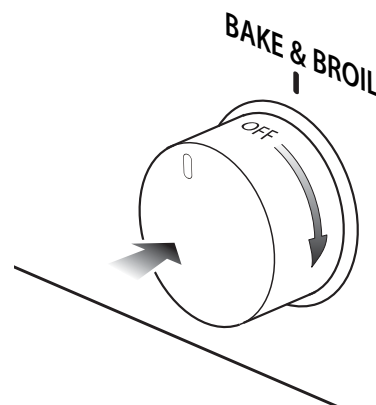

Fig. 3.5 Oven control knob
- 2) Press the oven control knob right down and, keeping it pressed, turn clockwise (fig. 3.5) to the BROIL position.